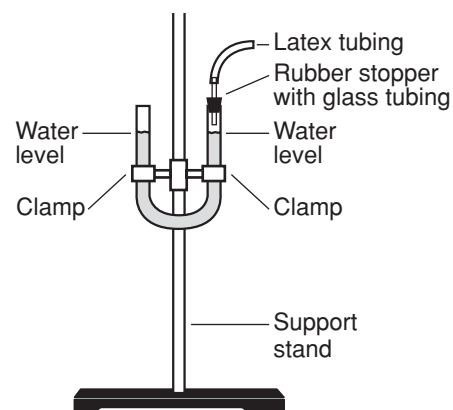

Figure 1.
3. Clamp the 1/2-inch plastic tubing into the double buret clamp to form a U shape (see Figure 1).